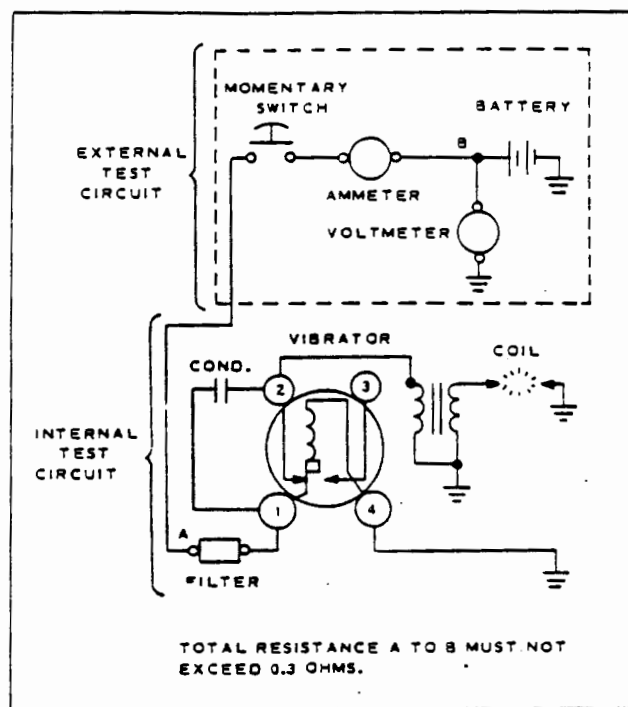

Figure 21-11. Wiring - Test Setup
6. Arrange the test equipment as shown in Figure 21-11.